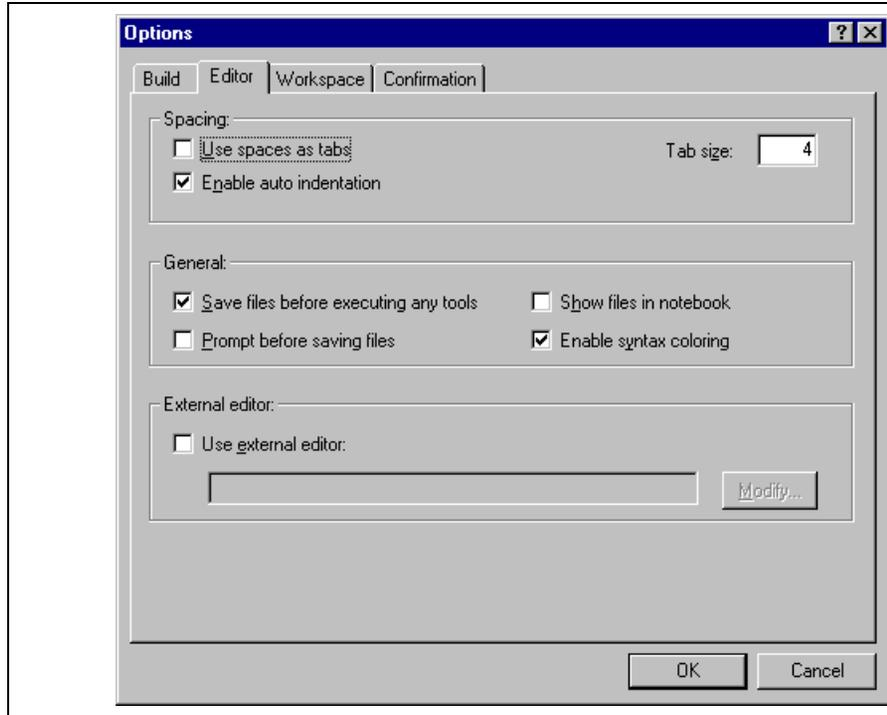

Figure 4.7: Options Dialog Editor Tab
1. Select [**Tools->Options...**]. The “Options” dialog will be displayed. Select the “Editor” tab * MERGEFORMAT (figure 4.7).
1. Select [**T**ools->**O**ptions...]. The “Options” dialog will be displayed. Select the “Editor” tab \ MergeFormat (figure 4.7).